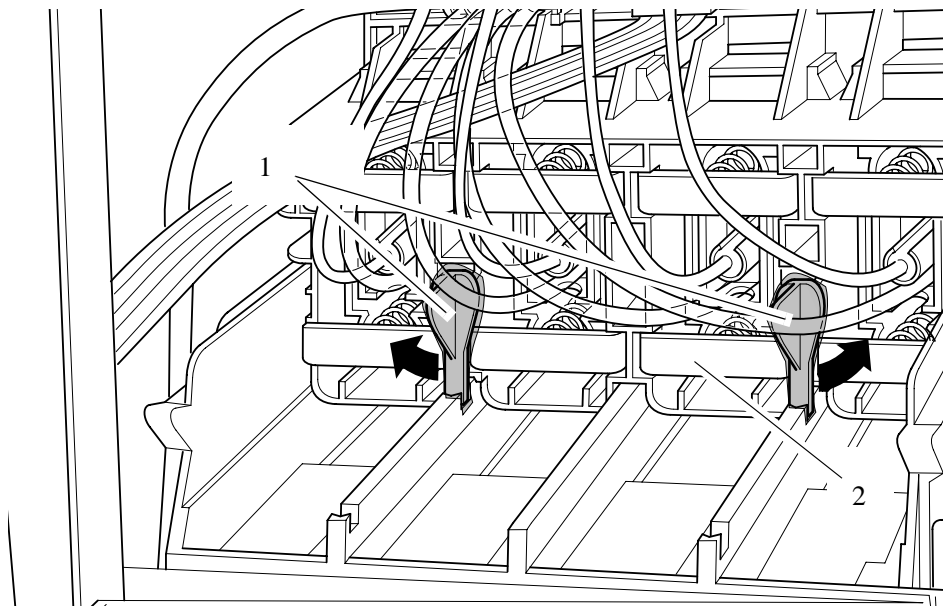

Figure 10: Latches
3. Twist the two latches at the rear of the ink cartridge tube connector outwards (refer to Figure 10). This will release the complete assembly.